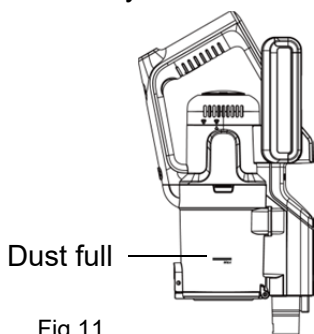

Fig.11
1. When the dust container reaches the MAX line marked on the container (fig 11) or when the suction power is reduced, it is time to empty the dust container.